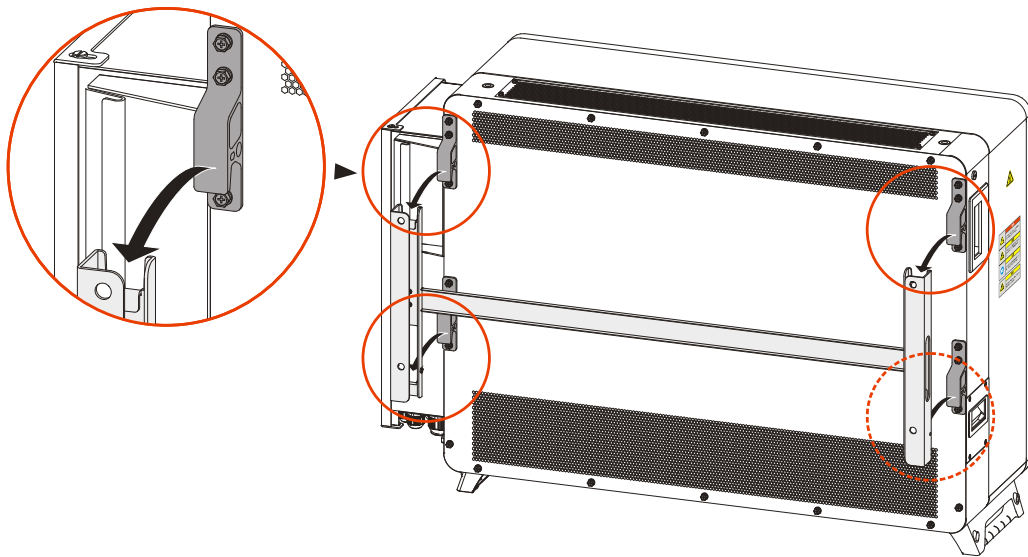

Figure3-16 Hang the inverter onto the installation holder
- Step 5 Lift the inverter to the installation holder, make sure that the mounting ears of the inverter and the groove of the installation holder fit well, and then slowly hang the inverter to the installation holder, as shown in Figure3-16.